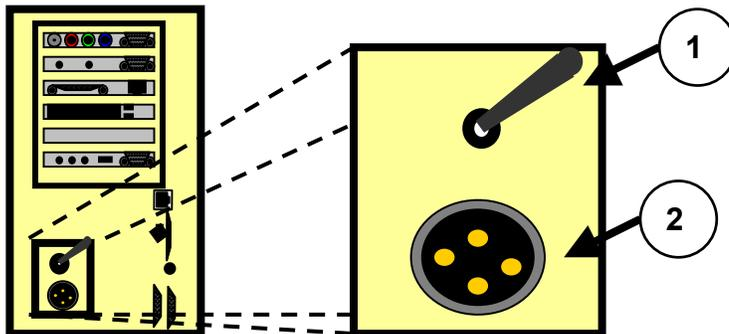

Figure 1-6. CCU2 power panel.
c. The left side of the CCU2 contains the power panel. The power panel contains the power connector and power switch. This is depicted in Figure 1-6 and Table 1-5.